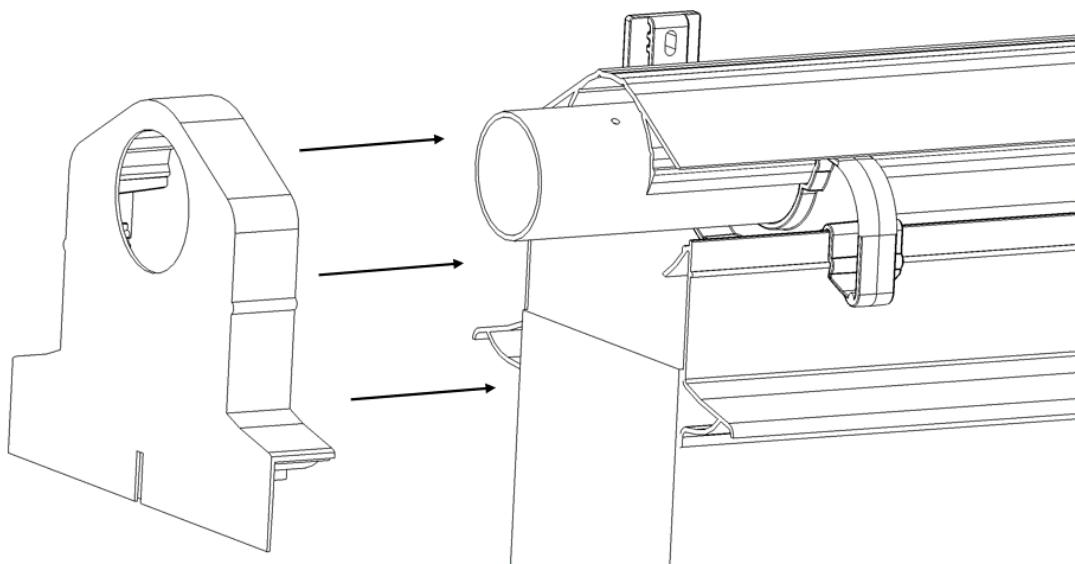

Figure 33
Insert the End Cover for Deflector [ref. 20] on both sides of the installation. See Figure 33.